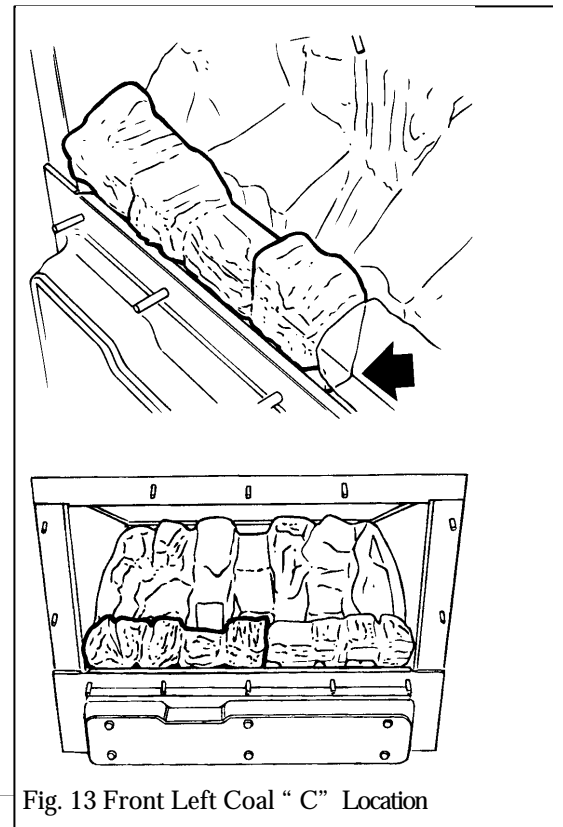

Fig. 13 Front Left Coal " C " Location
**10.3** Place the front left coal (embossed 'C' underneath) in position at the side of the first coal. The flat bottom front face of the coal should rest on the metal ledge immediately behind the bottom front of the firebox opening. See figure 13.